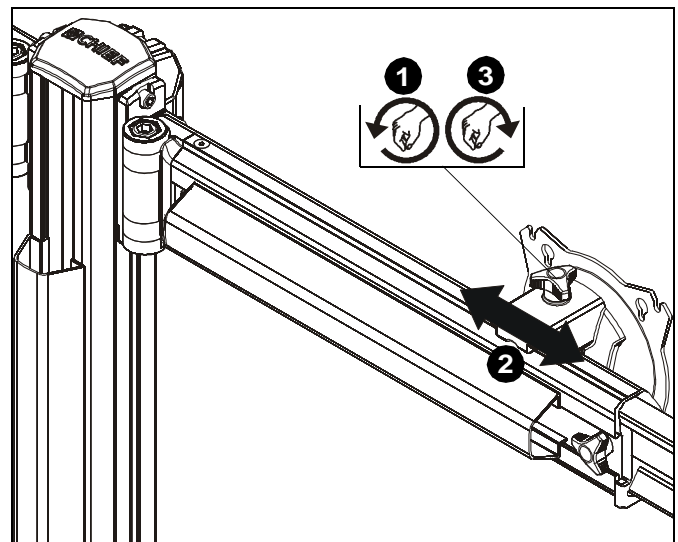

Figure 16
1. Loosen knob on top of outside faceplate assembly until faceplate can slide freely along array arm. (See Figure 16)
2. Adjust lateral position as desired. (See Figure 16)
3. Tighten knob to secure lateral position. (See Figure 16)